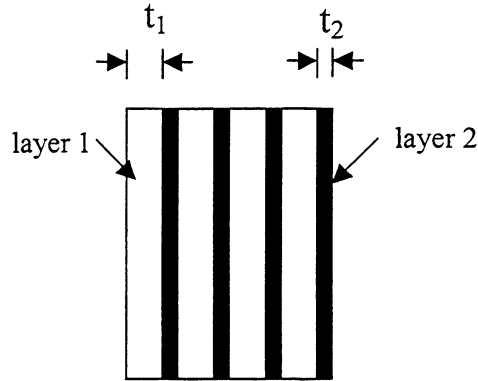

Fig. 6
- 9 (a) A multi-layer laminate consists of many alternating layers of thickness  $t_1$  and thickness  $t_2$ , as shown in Fig. 6. Layer 1 has a Young's modulus  $E_1$  and layer 2 has a Young's modulus  $E_2$ . Derive from first principles expressions for the longitudinal modulus  $E_{//}$  and the transverse modulus  $E_{\perp}$  of the laminate. [30%]